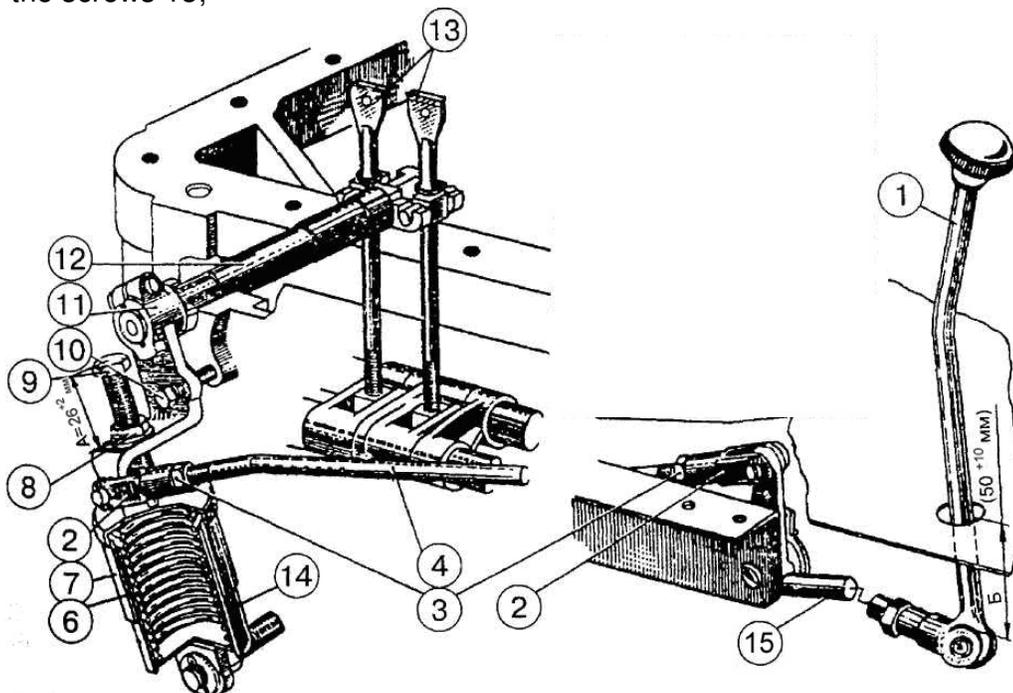
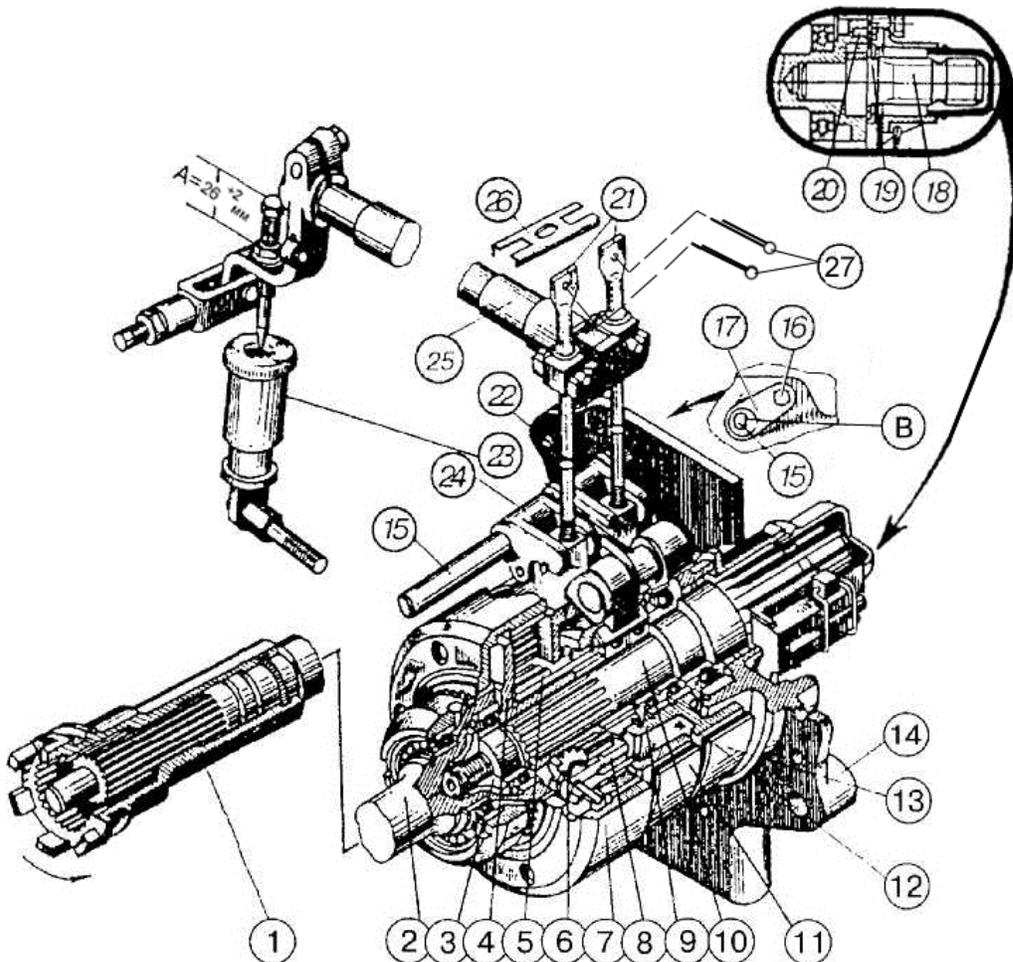

Fig. 1 Rear PTO control:
Fig. 2 Rear PTO planetary gear:
1. Set the eccentric axle 15 to its initial position so that the flat "C" (Fig. 2) be at the right side vertically and fasten it with the lock bar 17 and bolt 16.
2. Disconnect the rod 4 (Fig. 1);
6. Remove the lock bar 26 (Fig. 2), screw in turn the adjusting screws 21 to a torque of 8 to 10 N·m, then unscrew each screw by two turns, at that screw the screws so that the screw heads be parallel to the tractor centerline;
10. Set the rod 4 (Fig. 1) changing the length of the rod 4 and arm 15 adjust the dimension "B" (50^{+10} mm). After adjustment, install the lock bar 26 and splints 27 (Fig. 2) on the adjusting screws 21, the rear axle hatch cover, lock the rod 4 and arm 15 (Fig. 1) as well as the bolt 9. During operation, external readjustment is performed when:
After several external readjustments, the eccentric axle 15 (Fig. 2) takes the left-most position (the flat "B" is on the left vertically), which indicates that no more reserve of external adjustment is available. In such a case, set the eccentric axle to initial position by rotating it counter-clockwise (the flat is on the right vertically), after that perform adjustments as described for PTO control adjustment for assembly by manufacturer or PTO repair.
When adjustment is correct, the lever 1 (Fig. 1) in the ON position must be at least 50 mm away from the cab floor (dimension "B").
On tractors of earlier make, the PTO external readjustment mechanism may not be available (pos. 15, 16, 17, Fig. 2). In such a case, adjust as specified above for adjustment of PTO control after repair or in assembly by manufacturer. On small-cab tractors, the dimension "B" is 50 to 60 mm. PTO brake efficiency, absence of slipping depends only on the spring mechanism and first of all on